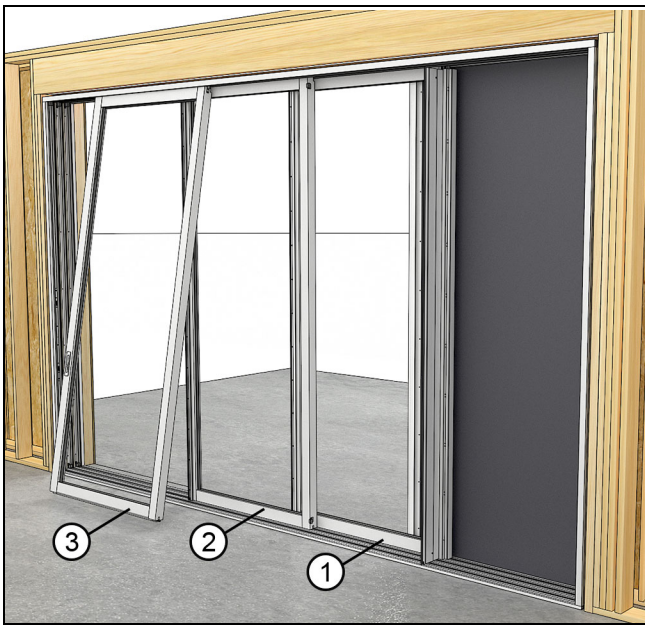

Figure 87
3. Install the primary operating panels last. Make sure each panel overlaps the previously installed panel so that the interlocks can engage with one another. See Figure 87